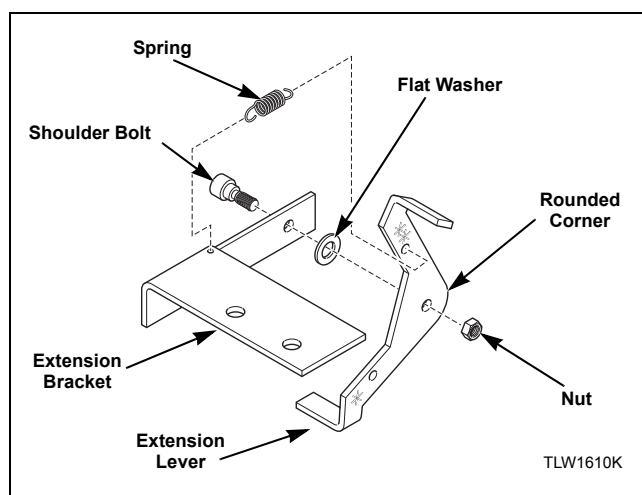

Figure 29
3. Install extension lever with rounded corner facing away from extension bracket using bolt, washer and nut. Refer to *Figure 29*.
4. Install spring to extension bracket with hook facing down. Install other end of spring to extension lever with hook facing left while standing in front of unit. Refer to *Figure 29*.